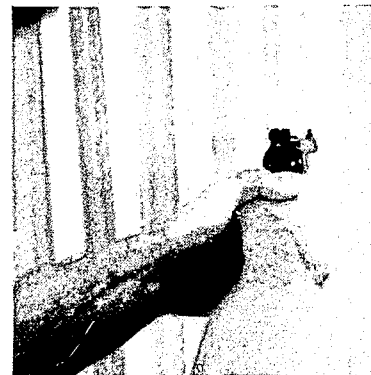

Figure 6-11
- b. Place the thumb of the weak hand over the back of the strong hand as far back as you can comfortably get it. (See Figure 6-11)
- c. Keep the wrist straight and locked. (See Figures 6-11 and 6-12)